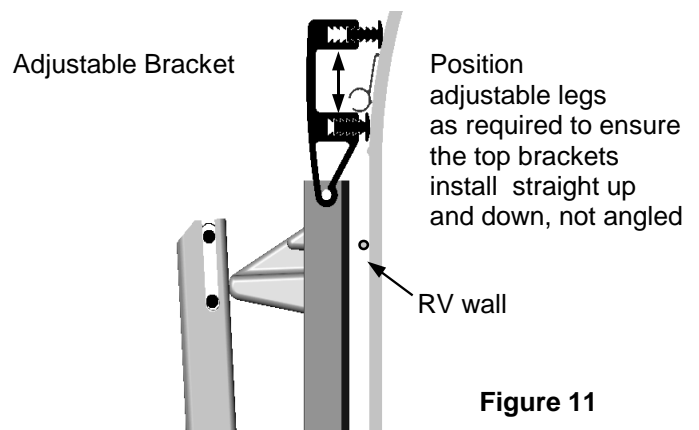

Figure 11
A. Remove the plastic wrap from the motorized arm assembly and position of upper bracket at the awning rail. The top bracket should straddle the awning rail and be positioned fully up against the bottom of the rail (figure 11). The brackets should be straight up and down (not angled) for proper operation. (See below for your style of bracket)